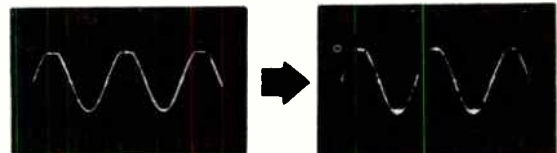

Fig. 3-23 Output wave form of ac balance adjustment
2. While watching the waveform on the oscilloscope, alternately turn the VOLUME control and adjust Rv505 (Rv605). Set Rv505 (Rv605) so that the positive and negative peaks of the output waveform are simultaneously clipped (as shown in Fig. 3-23) when increasing the VOLUME control just beyond the point that causes distortion.